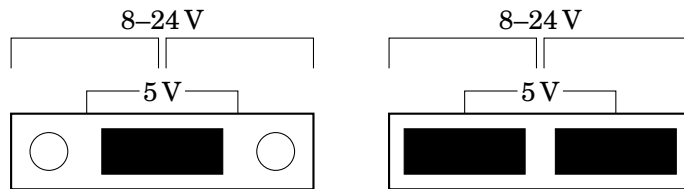

Figure 4.5: Input Voltage Select Jumpers for +5 V (left) and +8-24 V (right)
4. Configure the input voltage jumper J17. If the board will be provided with a regulated +5 V DC supply, place a single jumper across the middle pins (2–3). Otherwise, for input supply voltages from +8 V to +24 V DC, place two jumpers on pins 1–2 and 3–4, as shown in Figure 4.5. In the example being described here, we are getting +5 V so place a jumper across pins 2–3.